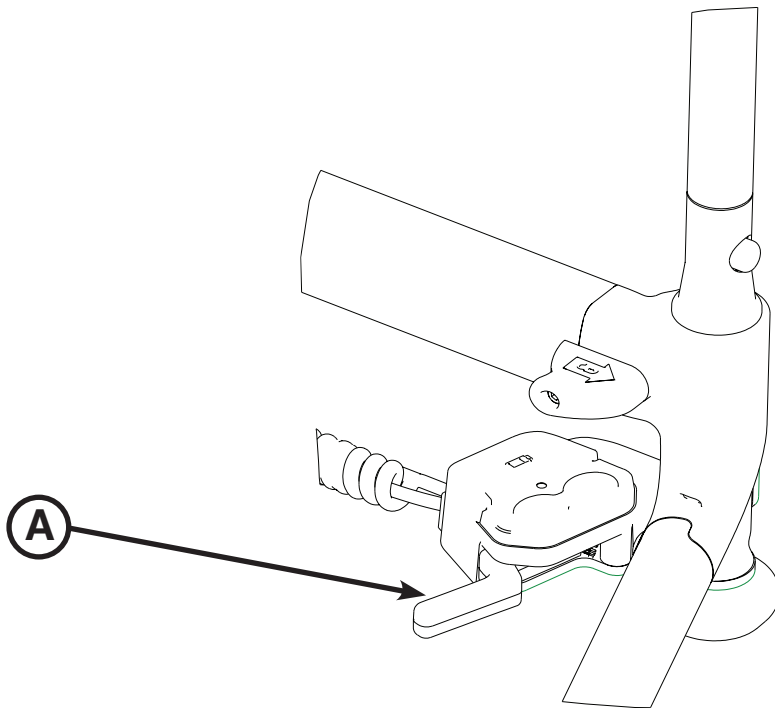

Figure 8
1. Press down firmly on the foot pedal until the locking mechanism disengages as shown in Figure 8.